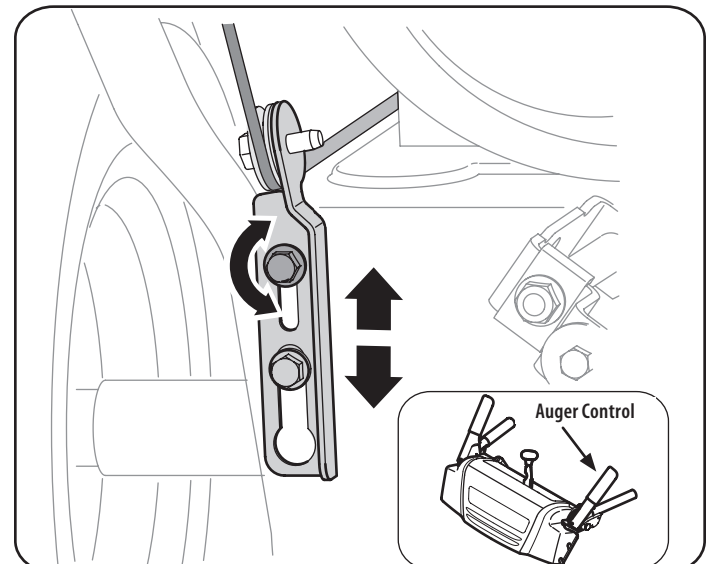

Figure 12
- The auger control is located on the left handle. See Figure 12 inset. When the auger control is released and in the disengaged "UP" position, the cable should have very little slack. It should NOT be tight.
- To readjust the control cable, loosen the upper hex bolt on the auger cable bracket. See Figure 12.